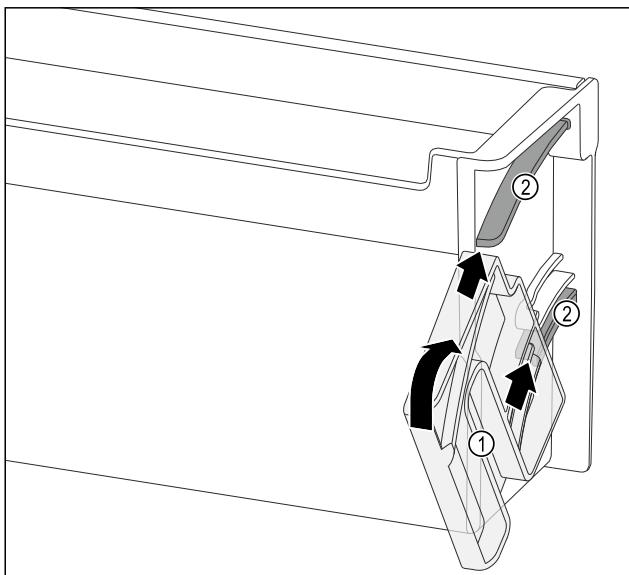

Fig. 128
- ▶ Position the turning unit Fig. 128 (1) so that the recesses are exactly opposite the guide channels Fig. 128 (2) of the door rack.
- ▶ Turn the turning unit Fig. 128 (1) towards the specified direction.